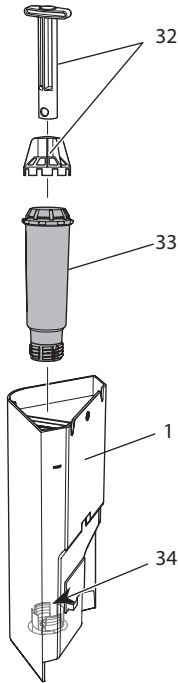

Fig. 18: *Screwing/Unscrewing the water filter*
7. Insert a new filter in the water tank (see *Fig. 18*).
2. Remove the water filter (see *Fig. 18*).